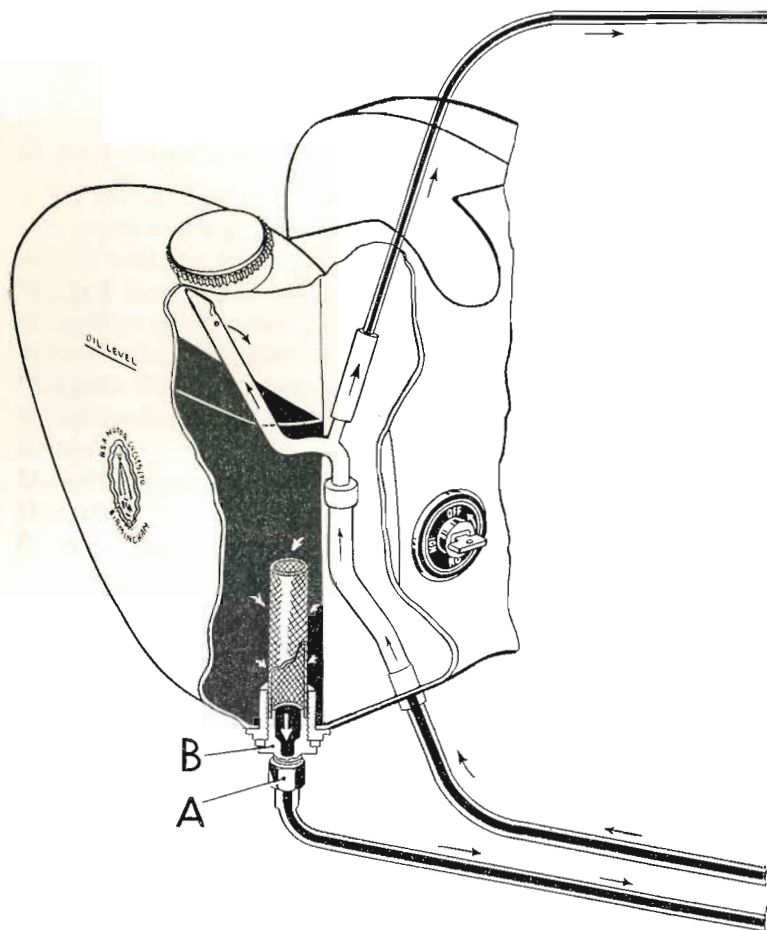

Fig. 2. The oil tank (except Trials and Scrambles models).
This should preferably be done immediately after running, so that the oil is warm and will, therefore, flow more freely. Disconnect the oil pipe union nut (A) Fig. 2, at the base of the tank and collect the old oil in a suitable receptacle.
Remove the oil tank and crankcase filters for cleaning at regular intervals (see ROUTINE LUBRICATION, page 35) and this can be carried out in conjunction with the change of oil. After releasing the oil pipe at (A), see Fig. 2, unscrew the hexagon plug (B), which carries the filter in the tank, and wash thoroughly in petrol. Make sure that all petrol has evaporated before replacing. Refill with the correct grade of oil.